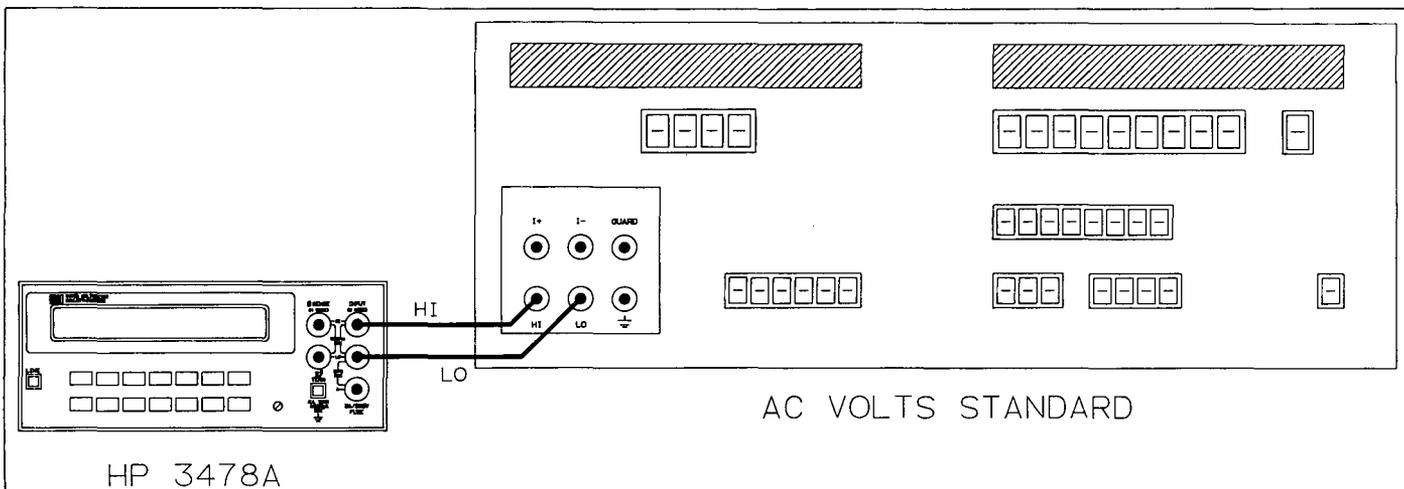

Figure 4-5. AC Voltage Test and Calibration Connections.
- c. Connect the AC Volts Standard output to the 3478A HI and LO INPUT terminals as shown in Figure 4-5. Set the AC Volts Standard for an output of 0.028V at 20KHz.